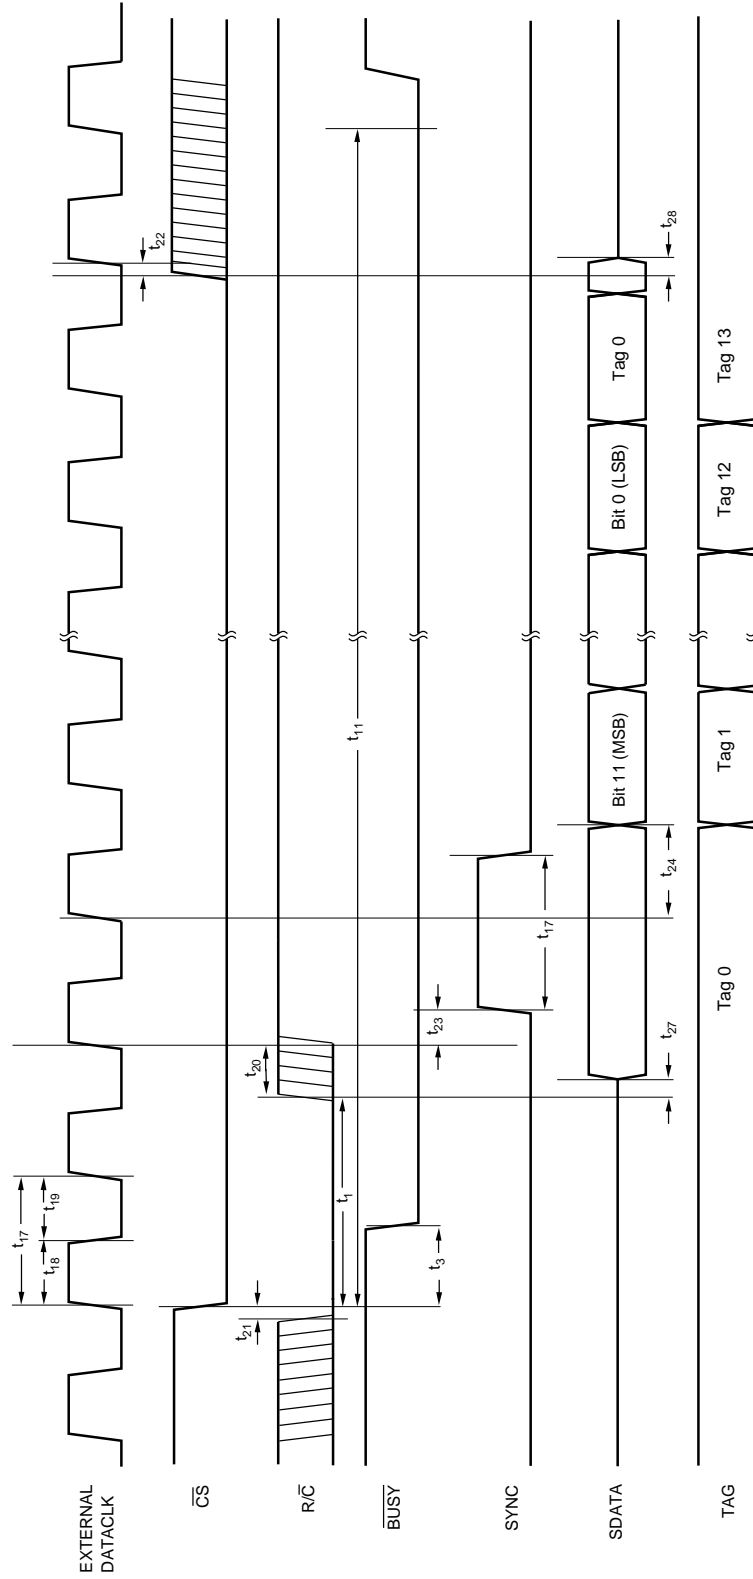

FIGURE 6. Conversion and Read Timing with External Clock ( $\overline{EXT/INT}$  HIGH). Read During Conversion (Previous Conversion Results).
**NOTE:** For the best possible performance when using an external data clock, data should not be clocked out during a conversion. The switching noise of the asynchronous data clock can cause digital feedthrough degrading the converter's performance. Refer to Table II and Figure 6 for timing information.